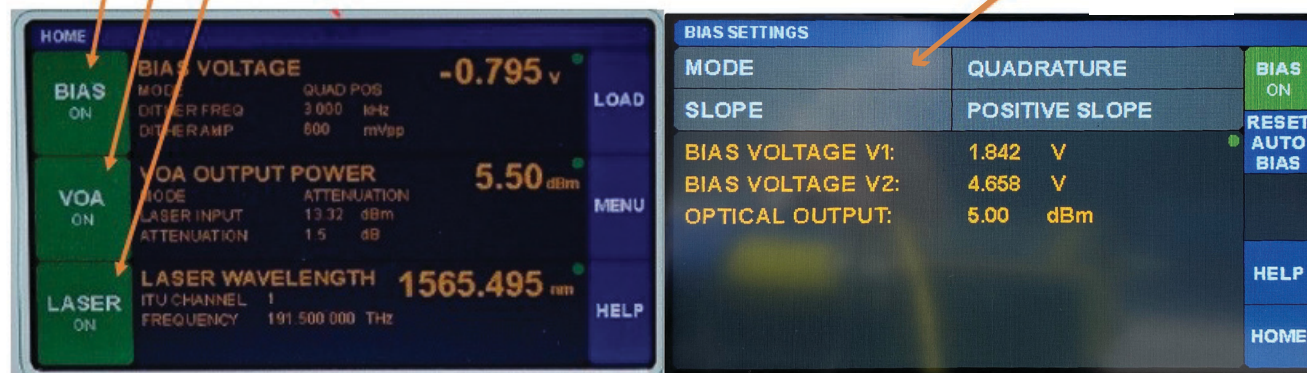

Figure 3-14. E/O Converter Setup Screen
9. Make settings on MN4775A-0111 via the display touch screen as described below; refer to Figure 3-14.
- a. Touch center section of VOA OUTPUT POWER region to bring up secondary screen as shown in Figure 3-14 (left side).
- a. Touch center section of **BIAS VOLTAGE** region to bring up secondary screen as shown in Figure 3-14 (right side).